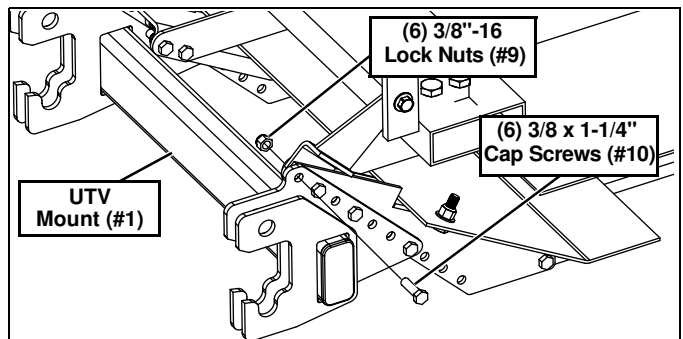

Figure 6
13. Loosely secure the UTV Mount (#1) to both Front Brackets (#2 & 3) using (6) 3/8"-16 x 1-1/4" Cap Screws (#10) and (6) 3/8"-16 Lock Nuts (#9). (See Figure 6.)